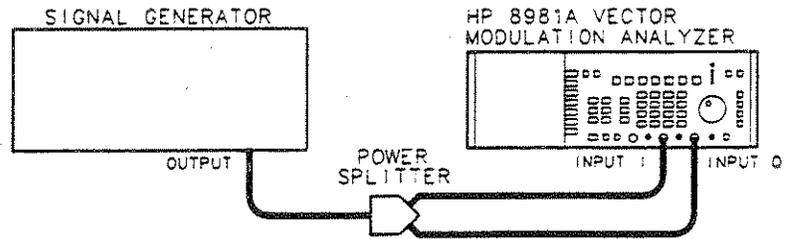

Figure 4-1. Bandwidth and Timing Accuracy Test Setup
1. Connect the equipment as shown in Figure 4-1.